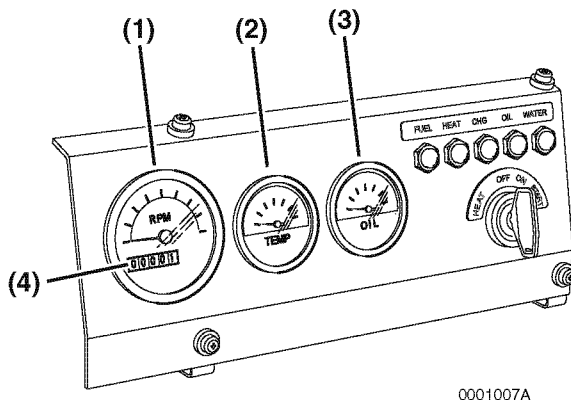

Figure 3
Tachometer - The tachometer display (Figure 3, (1)) shows the engine speed in Revolutions Per Minute (rpm).
Engine Coolant Temperature - The engine coolant temperature display (Figure 3, (2)) shows the temperature of the engine coolant.
Engine Oil Pressure - The display (Figure 3, (3)) shows the pressure of the engine oil.
Hour Meter (Optional) - The hour meter display (Figure 3, (4)) shows the total number of hours the engine has run. This is useful for planning the *Periodic Maintenance Schedule* on page 43.